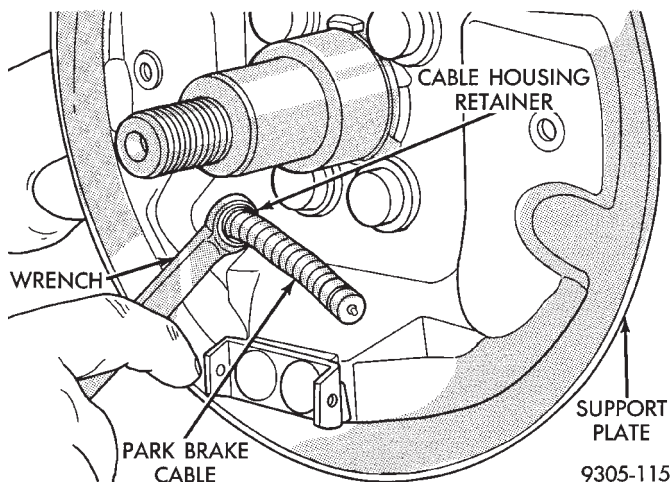

Fig. 121 Removing Park Brake Cable From Support Plate
(6) Position a 1/2 box wrench over the retainer on the end of the parking brake cable (Fig. 121). Compress cable housing retaining fingers and start housing out of support plate (Fig. 121). Remove wrench when retainer is free from the park brake cable mounting hole in the rear brake support plate. Alternate method is to use a aircraft type hose clamp over housing end fitting compressing the three fingers.